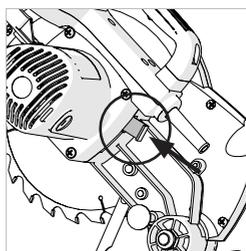

Fig. 26
- Press the black arbor lock button to lock the arbor. **(Fig. 26)**